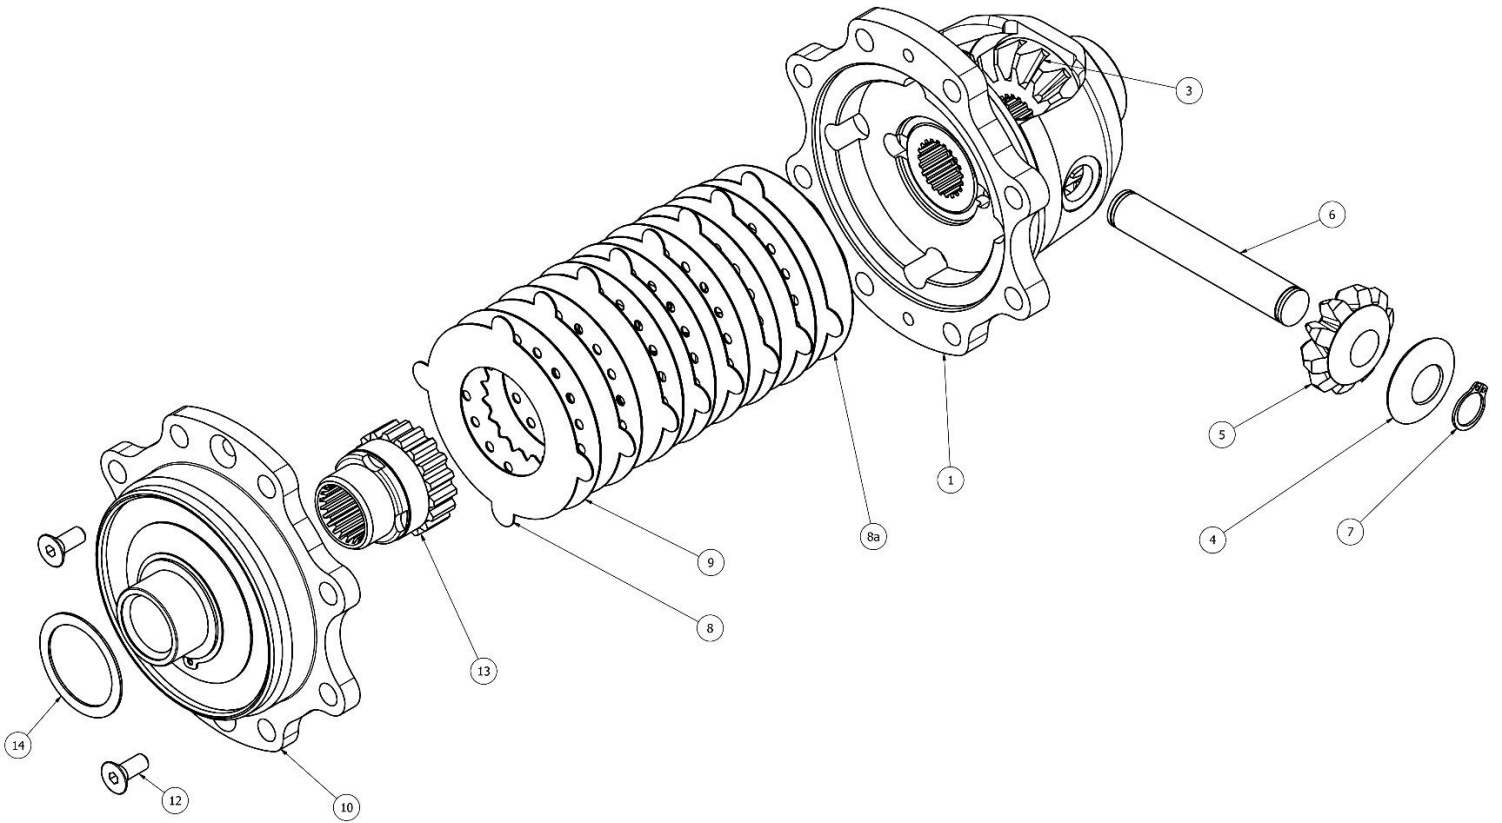
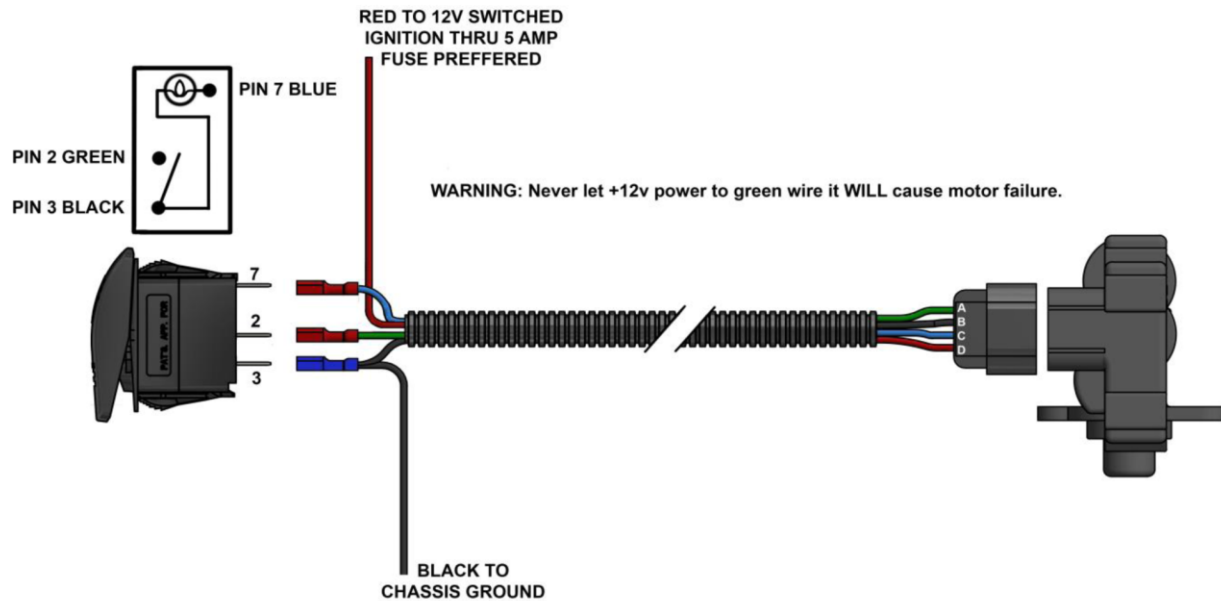

Figure 2
Figure 4
3. Remove case lid (26s) and save hardware (40) and O ring (49) for reassembly.
4. Shim (14) will likely be on the bearing journal of the carrier but it can get stuck to the bearing (28) when removed. Save this shim for reassembly.
**Note:** This shim (14) sets the gear backlash and will need to be reinstalled in the same spot during reassembly.
5. Remove carrier and ring gear assembly from case and remove ring gear (37) from carrier (1-13).
6. Use Figure 2 to prepare carrier for reinstall.
13. Install Visco gear (13), locking gear (36), and shim (35) into carrier assembly (1-12)
14. Install cap (34) and ring gear (37) on carrier assembly, using bolts (32) and torque to 33 ft-lb. Install lock tabs (33) on bolt (32) (flip tab for more lock positions) Secure lock tabs (33) with retaining ring (33a) by installing retaining ring into groove on cap (34) . Do not reinstall screws (12) from figure 2.
15. Place carrier assembly back in housing assembly (30) then place shim (14 removed in step 4) back on carrier cap bearing journal
16. Assemble the Halo case lid shifting mechanism. Some components are pre-assembled. Place the fork and piston assembly (27), (22), (20) in case lid (26). Install spring (24) and washer (21) on piston (22), compress spring and washer enough to install and retaining clip (19) onto piston groove.
17. Place O ring (25) in position and install motor adaptor (18) with bolts (17).
18. Clean and lube O ring (49) removed in step 2 and install onto lid assembly (26)
19. Slip locking ring and pin assembly (31) onto fork (27).
20. Place lid assembly (26) onto carrier and case assembly (30) while aligning the 4 pins on the lock ring assembly (31) into the 4 holes in the carrier cap (34).
21. Align bolt holes in lid assembly (26) with blot holes in case (30) and using your hand or a soft mallet force lid to seat in case. And install bolts (40) removed in step 2. Torque to 17 ft-lb.
22. For clearance and easier installation, install motor actuator (16) with bolts (15) and breather fitting (29). After Installing differential assembly back in vehicle and before reinstalling the left axle shaft.
24. Install switch (39) and harness assembly (38) in desired location, being careful to wire switch correctly as shown in figure 4.